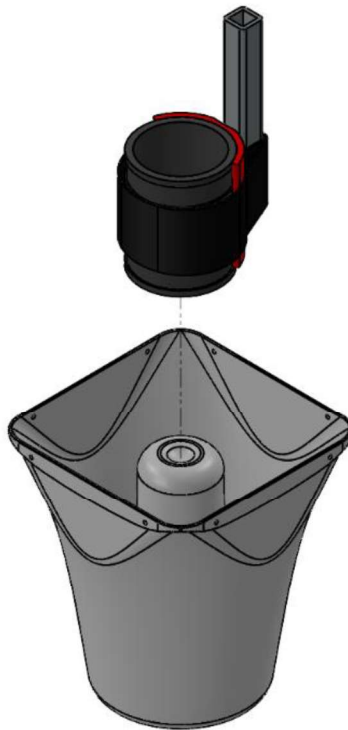

Figure 2 – Wrench Adapter Assembly Position on Re-Entrant Tip
- 2.1.2 Per Figure 2, affix Wrench Adapter Assembly (WA-001 and 156-99-005) to Re-Entrant Tip. Ensure Wrench Adapter Assembly is fully seated on Re-Entrant Tip and does not contact Loudspeaker Bell. Surface damage to the Bell may occur if the Wrench Adaptor contacts it during rotation. The bottom end of the wrench adapter is fitted with a rubber cap to mitigate bell damage.